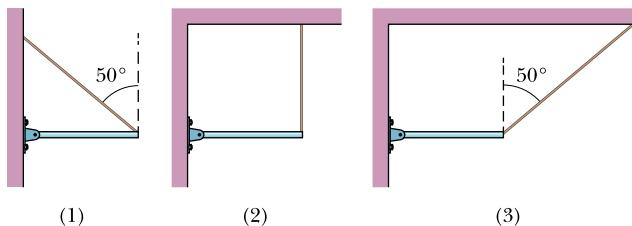

Figure 12.1 Question 1.
- 1 Figure 12.1 shows three situations in which the same horizontal rod is supported by a hinge on a wall at one end and a cord at its other end. Without written calculation, rank the situations according to the magnitudes of (a) the force on the rod from the cord, (b) the vertical force on the rod from the hinge, and (c) the horizontal force on the rod from the hinge, greatest first.